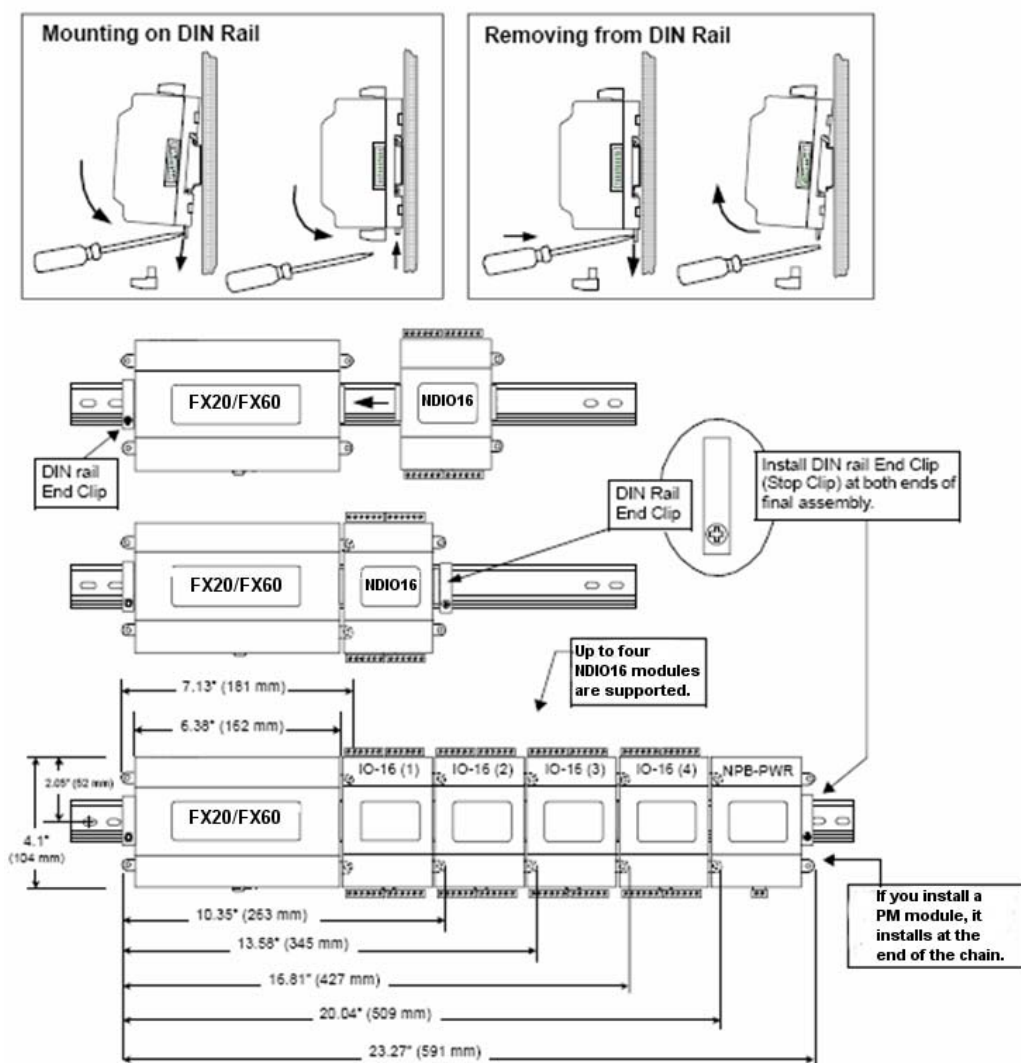

Figure 3: NDIO16 Mounting Details
8. To keep the final assembly together, secure the assembly at both ends with DIN rail end-clips. This also prevents the assembly from sliding on the DIN rail. See Figure 3.